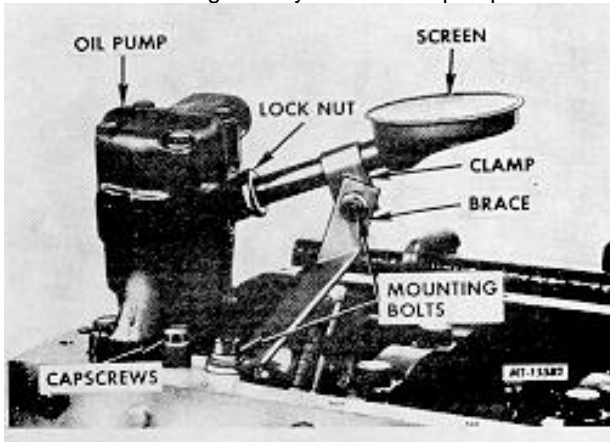

Fig. 49 Oil Pump Removal
49. Remove mounting nuts, lockwashers, flat washers and bolts from oil pump screen brace and clamp. Remove brace and clamp (Fig. 49).
50. Loosen the oil pump mounting capscrews and remove the oil pump from the crankcase (Fig. 49).